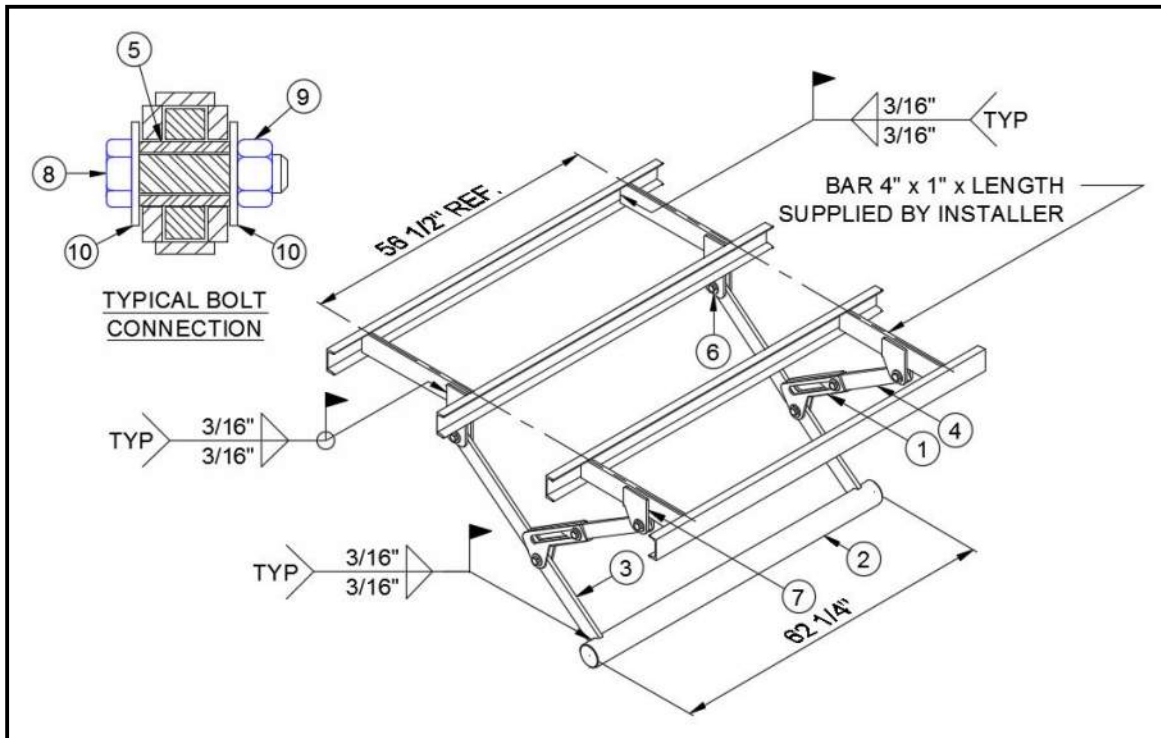

Figure 3
5. Assemble the Bumper Assembly to the Front and Rear Brackets (See Figure 3). Refer to the Typical Bolted Connection (See Figure 3) for all connections.